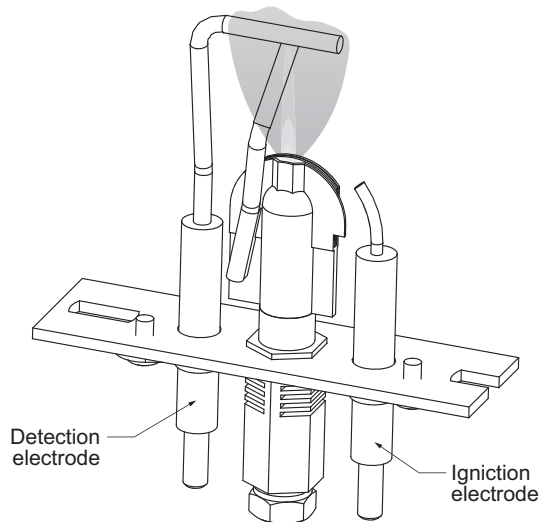

Figure 11.1 (Pilot burner flame)
- 9) Inspect the pilot burner flame. The pilot burner produces three flames. The center one should be a steady medium blue flame covering around 3/8" to 1/2" of spark electrode/flame rod. (Figure 11.1)